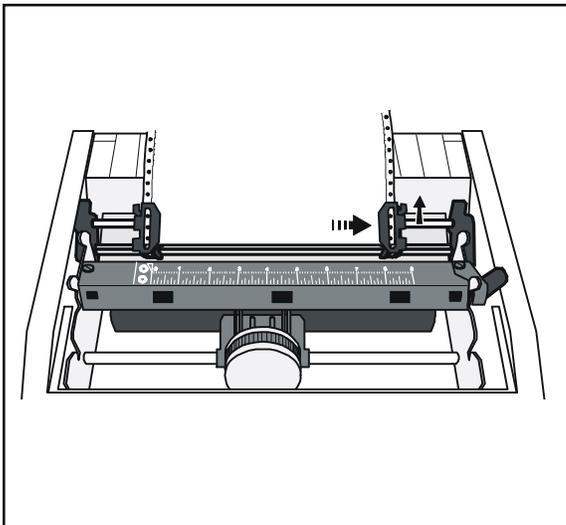

Figure 3-7. Aligning & Locking the Right Tractor
8. Slide the right tractor as needed to make the paper just slightly taut between the tractors, as shown in figure 3-7. Then, lock the right tractor into place.